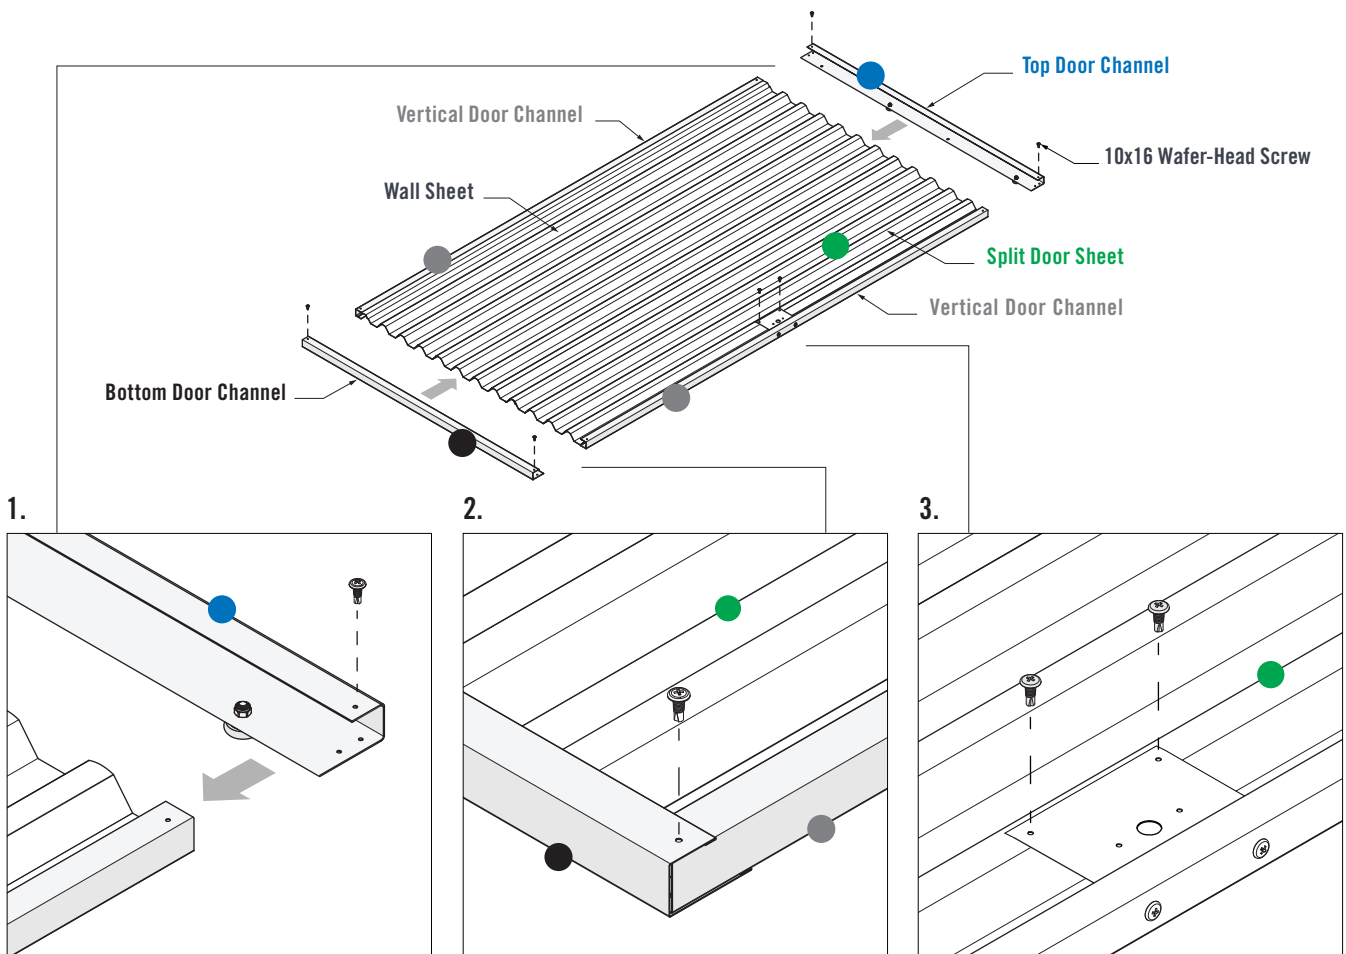

FIGURE 5.5
1. Fit the Vertical Door Channels over the side of the door sheets, then fit the Top and Bottom Door Channels over the door sheet ends. Ensure the lip of the Top and Bottom Door Channels fit over the Vertical Door Channels (Figure 5.5).
2. Fasten one 10x16 Wafer-Head Screw through the pilot holes in the corner of each Top & Bottom Channel and into the Vertical Door Channels (Figure 5.5).
3. Crest-fix two 10x16 Wafer-Head Screws through the pilot holes in the Handle Mount and into the Split Door Sheet (Figure 5.5).